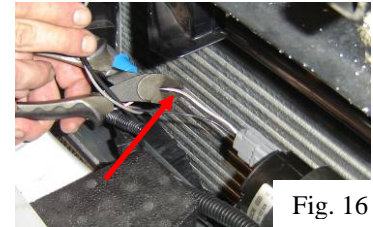

Fig. 16
- 37) Remove the plastic loom on the coolant pump harness and locate the white & red wire. This wire will have battery voltage when the pump is activated. Cut this wire approximately 2" from the pump connector (Fig. 16).